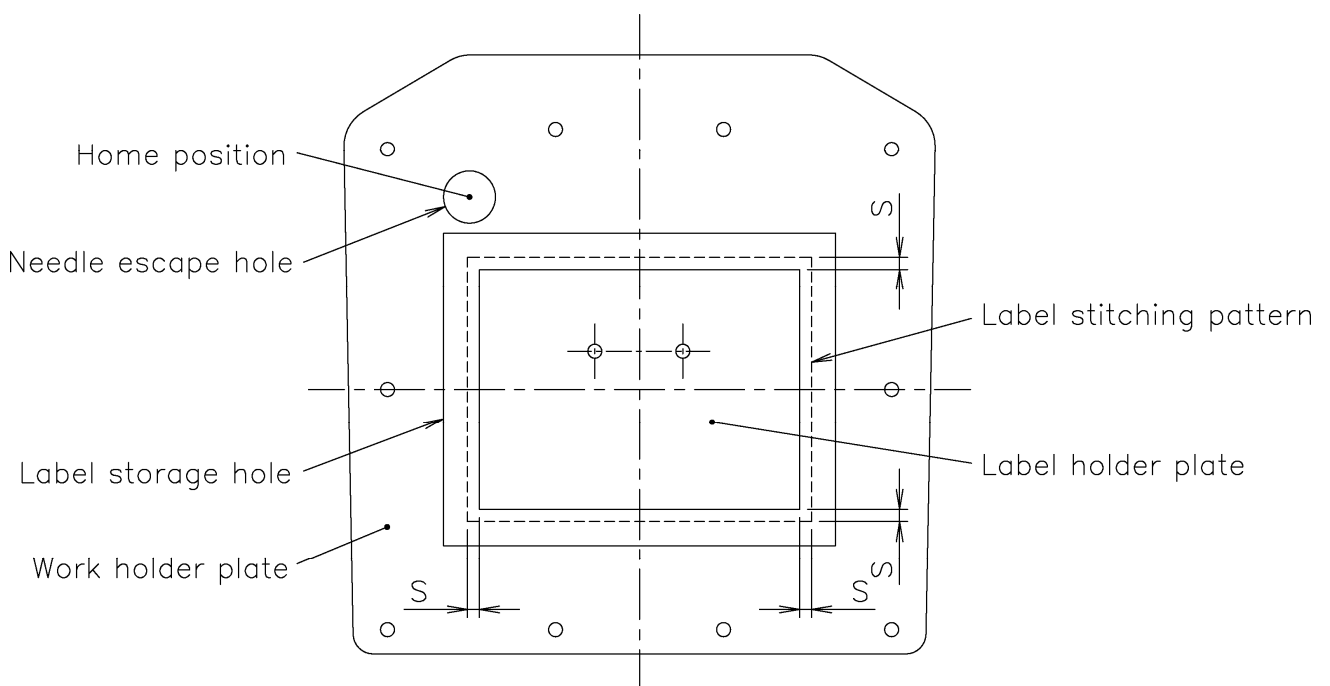

Fig. 2
- (2) As shown in Fig. 2 on the next page, mark the label holder to indicate the size obtained by subtracting the holder amount  $S$  from the stitching pattern position of the label to be sewn on. (At this time, the holder amount  $S$  is set to the size of the needle or more. If set too large, the stitches may miss the material.)
- (3) Cut the plate along the marked lines using a cutter knife, fret saw or file, etc.
- (3) Depress the [Black] side of the 2-pedal foot switch, and lower the work holder.
- (4) After placing a label under the label holder plate, depress the 1-pedal foot switch, and lower the label holder. Check that the label is pressed at the correct position.
- (5) Make marks at the moved home position and at the four corners of the label.
- (6) Raise the label holder and work holder, and remove the work holder plate.
- (7) As shown in Fig. 2, mark an escape hole for a  $\phi 10$  or more needle at the home position, and mark lines connecting the four corners of label.
- (8) Cut out the plate along the marked lines using a cutter knife, fret saw or file, etc.